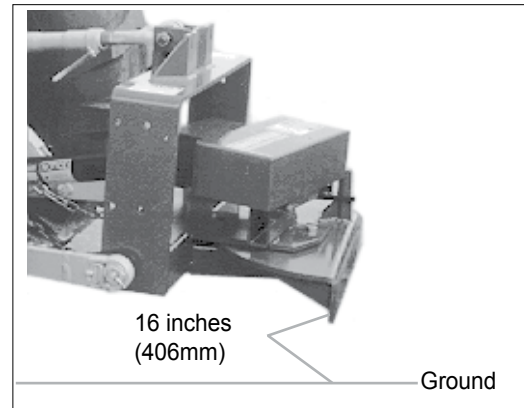

figure 4
- a. Raise hitch arms until the center of the mounting assembly's rear plate is 16 inches (406mm) above the ground (figure 4).